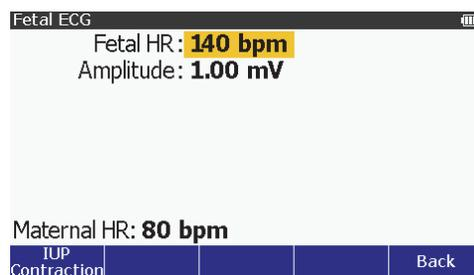

Figure 12. Fetal ECG Screen
2. Push **▲**, **▼**, **▶**, or **◀** to highlight **Fetal Simulation** and then push **ENTER** to show the Fetal ECG screen on the display. See Figure 12.